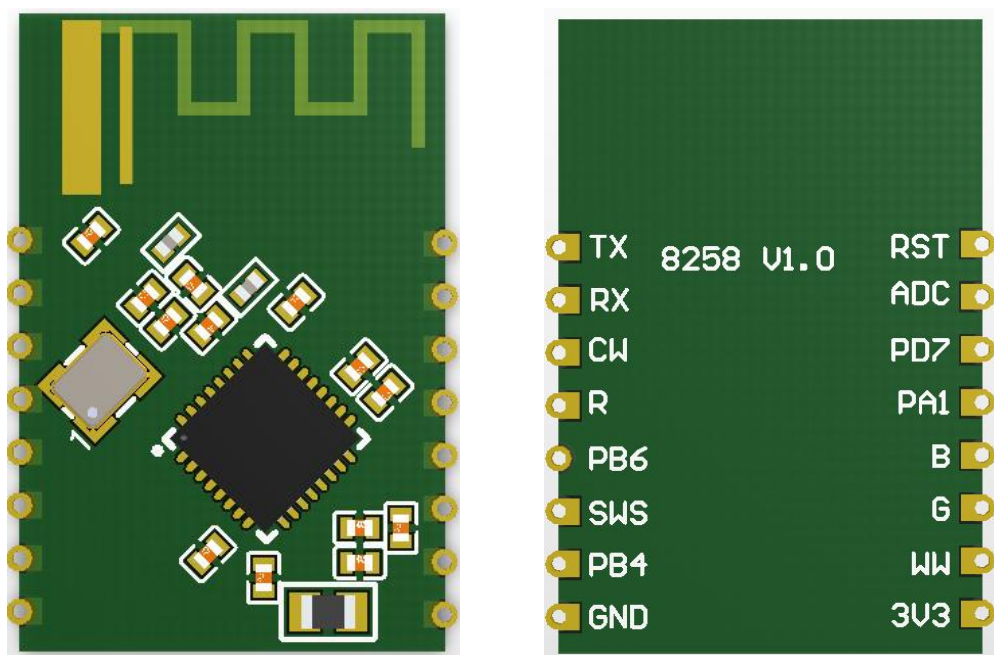

Figure 3.1 Schematic diagram of KLMKBM-01 Bluetooth module
KLMKBM-01 Bluetooth module size: 16 ± 0.35 mm (W) \times 24 ± 0.35 mm (L) \times 2.8 ± 0.15 mm(H), and the PCB thickness is $0.8\text{mm} \pm 0.1$ mm. The package is shown in Figure 3.1